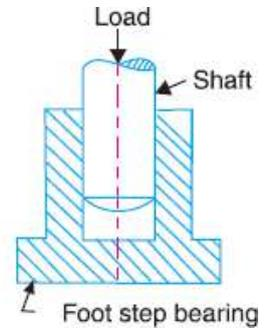

FIG. 1.4
- When the motion between the elements, forming a pair, is such that the constrained motion is not completed by itself, but by some other means, then the motion is said to be successfully constrained motion. Consider a shaft in a foot-step bearing as shown in Fig. 1.4.